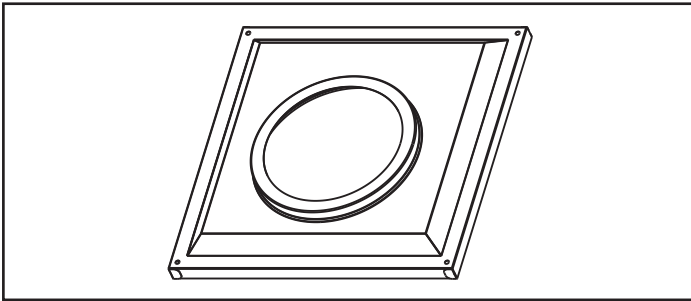

Figure 7.17 - Wall Thimble
- Once the pipe section and the termination cap have been connected, slide the wall thimble up to the interior wall surface and attach with screws provided, Figure 7.17.